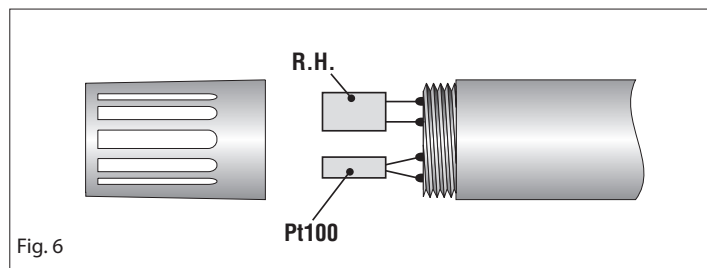

Fig. 6
3. Unsolder the Pt100 sensor (the narrowest one) and in place of it, solder the output wires of a Pt100 simulator or those of a precision resistance, as shown in figures 6 and 7. Then wait a few seconds for the junction to get cold.